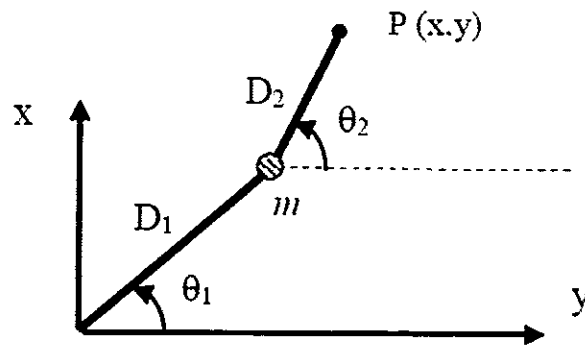

Figure 2.
- (ii) Consider a two-link robot with shoulder and elbow joints as shown in Figure 2. Find the Jacobian matrix which relates the velocity of the tip to the joint velocities.